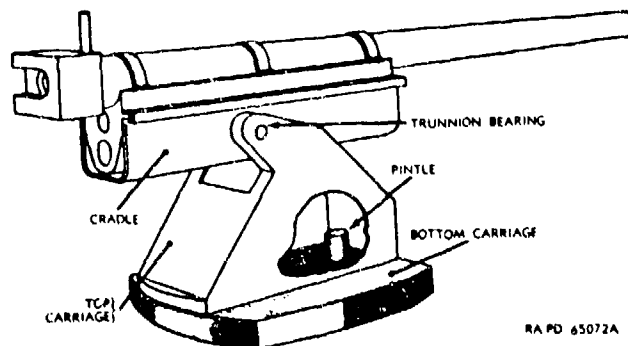

Figure 2-8. Top carriage.
**g. Top carriage.** The top carriage (fig 2-8) supports the cradle in its trunnion bearings and includes the elevating mechanism. It moves with the cradle in traverse but not in elevation. When the weapon is traversed, the top carriage rotates horizontally on the bottom carriage. (As noted in *a* above, the 105-mm howitzer M102 has no bottom carriage.)
**h. Types of traverse.** The types of traverse are classified according to the manner in which the cannon pivots in a horizontal plane about the stationary parts of the weapon. The types of traverse employed by artillery weapons are described in (1) through (3) below.